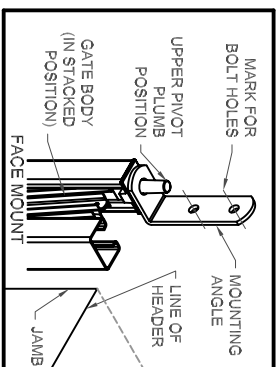

FIG. 2
3. PLACE MOUNTING ANGLE OVER THE UPPER PIVOT PIN AND PLACE GATE IN PLUMB POSITION. (FIG. 2)
4. MARK THE WALL FOR THE (2) MOUNTING BOLTS. THEN REMOVE GATE AND DRILL HOLES FOR MOUNTING ANGLE. (FIG. 2)